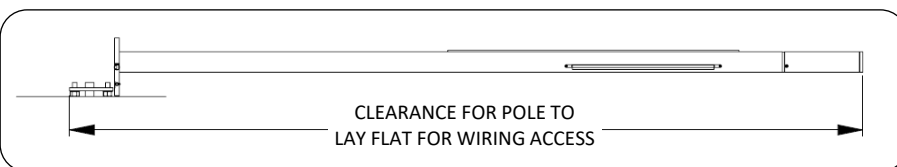
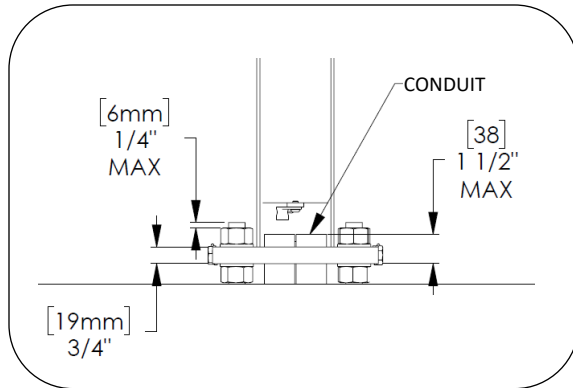

Fig. 1 - Installation clearance for pole
Fig. 2 – MAX conduit and anchor bolt heights
1. Refer to Stick Light Anchor Kit Installation Guide for anchor installation. Cut conduit to max height indicated on Fig. 2. Clearance for installed pole to be rotated to access wiring should be considered when placing anchors, see Fig. 1.
7. Install (4) washer and (4) hex nuts. Tighten securely. Cut anchors to max height indicated on Fig. 2 to allow for pole rotation for future access to wiring.